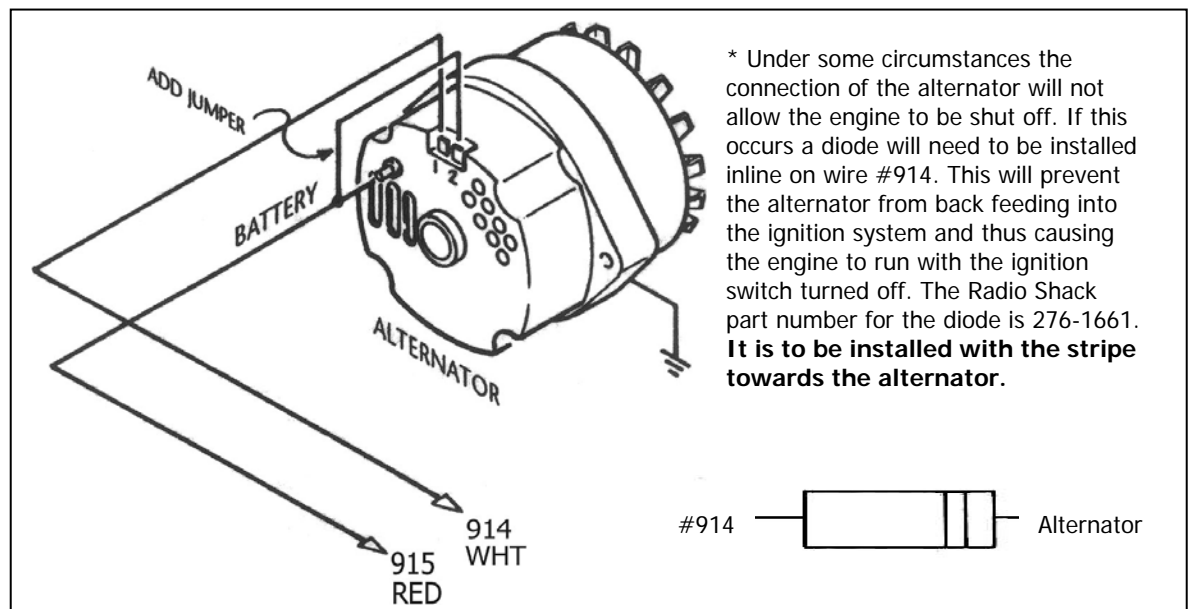

Figure 7-2A Late GM Alternator - Internal Regulator
7.2 GM Alternator (after 1972) - Internal Regulator. See Figure 7-2A.
** If you do not have a One Wire alternator refer to Figure 7-2A.